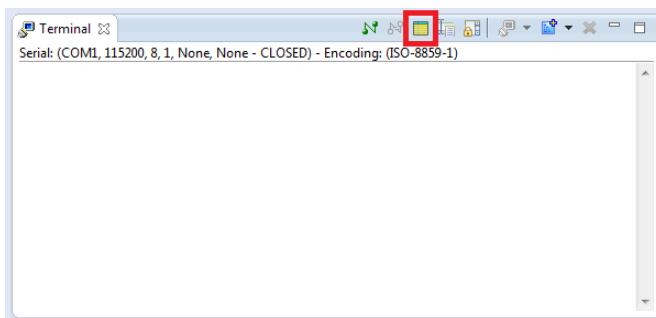

Figure 13-13. ARM DS-5 Serial Terminal
64. Although we can continue to use the “minicom” program as we previously did in Figure 13-9, we will use the built-in serial terminal available in ARM DS-5 to have all development windows in one area. Go to “Window > Show View > Other... > Terminal > Terminal” to open ARM DS-5’s the built-in serial terminal. You should see the terminal shown in Figure 13-13.